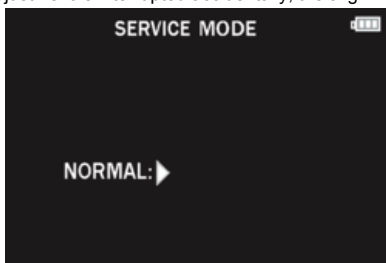

Fig. 3-5
3. Do not press any buttons/keys until the default menu (Fig.3-5) is displayed on the LCD monitor. Otherwise, adjustment data may not be stored properly.